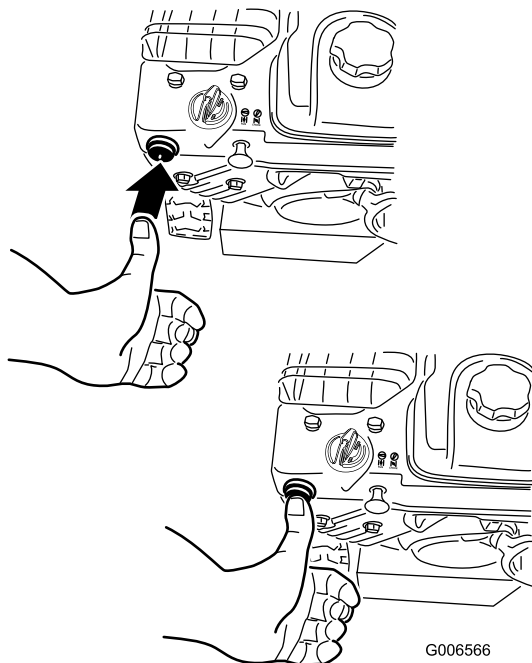

Figure 21
4. Firmly push in the primer with your thumb 2 times (15°F or -9°C or above) or 4 times (below 15°F or -9°C), holding the primer in for a second before releasing it each time (Figure 21).